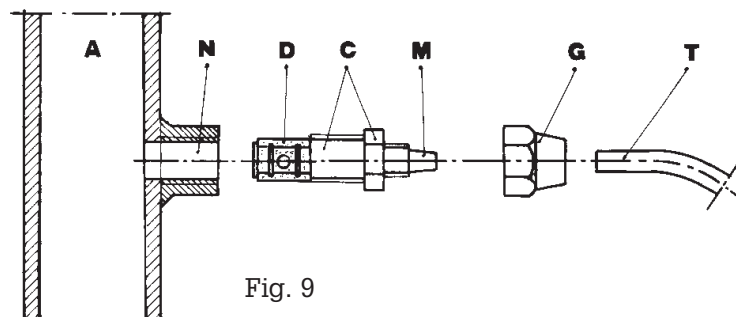

Fig. 9
- g.** - Select the most appropriate injection point on a pipe of the plant to be treated and there fit a 3/8" female steel gas thread connector (similar to BSPm). This connector is not supplied with the pump. Screw the injection valve to the gas connector, inserting a gasket as shown in Fig. 9. Then connect the discharge hose to the conical connector on the injection valve and fix it with the supplied tube nut G. The injection valve also acts as no return valve by means of a cylinder sleeve (elastomer, standard supplied in Viton).
DIAGRAM Fig. 9